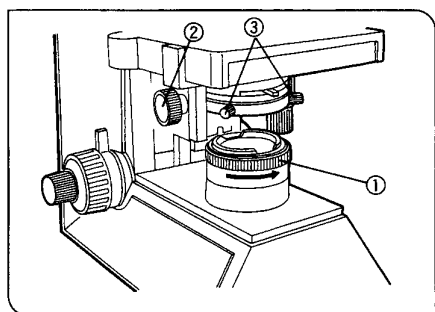

Fig. 21
1 Centering the Field Iris Diaphragm (Figs. 21, 22)
1. With the 10X objective engaged and the specimen brought into focus, turn the field iris diaphragm dial ① counterclockwise to stop down the diaphragm to near its minimum size. (Fig. 21)
2. Turn the condenser height adjustment knob ② to bring the field iris diaphragm image into focus. (Fig. 21)
3. While gradually opening the field iris diaphragm image, rotate the two centering knobs ③ of the compensating lens to adjust so that the field iris diaphragm image is centered in the eyepiece field of view. (Figs. 21, 22)